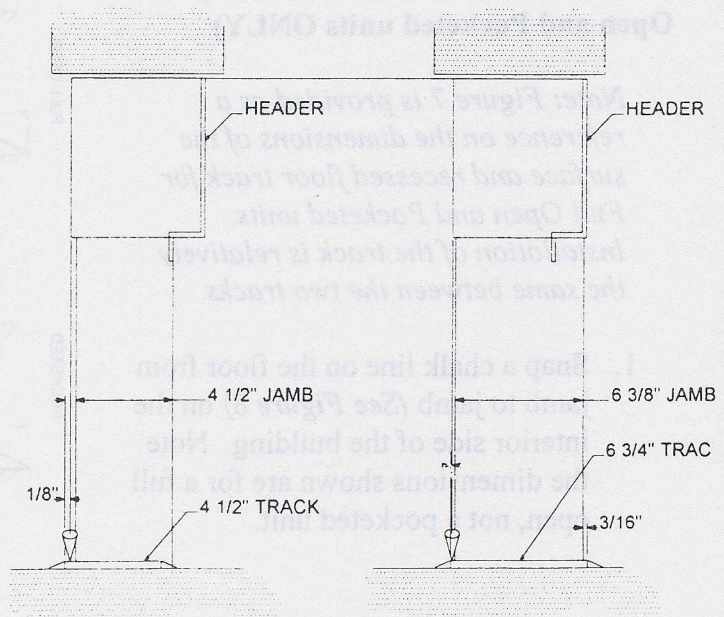

Figure 10
- Locate the track 1/4 inch out from the chalk line. Check the floor track location with the plumb bob from the header (See Figure 10).